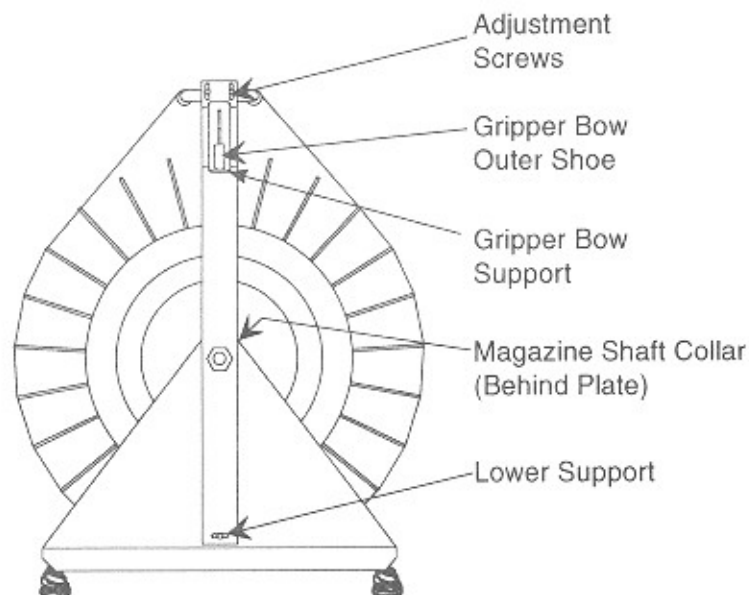

Figure 6-10. Magazine Belt Adjustment
See *Figure 6-10* for this adjustment.
1. Loosen the two adjustment screws shown in *Figure 6-10*.